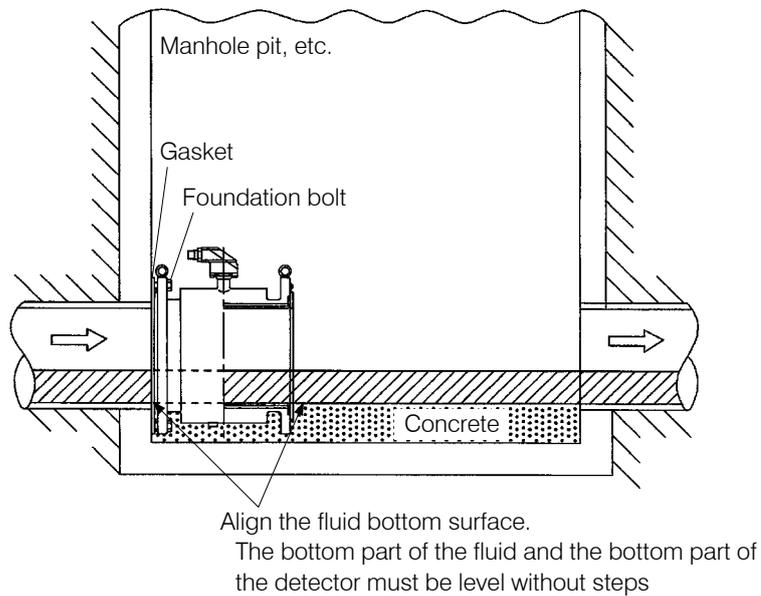

Figure 4.7 Pit Connection Method
- ② Install the detector on the wall in a pit as shown in Figure 4.7.
(2) About bolts and nuts